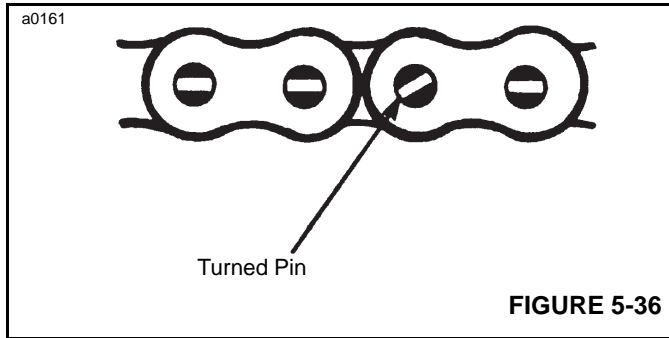

FIGURE 5-36
- d. The pin head rivets should be examined to determine if the V-flats are still in the correct alignment. Chain with rotated or displaced heads or abnormal protrusion (Figure 5-36) should be replaced immediately.